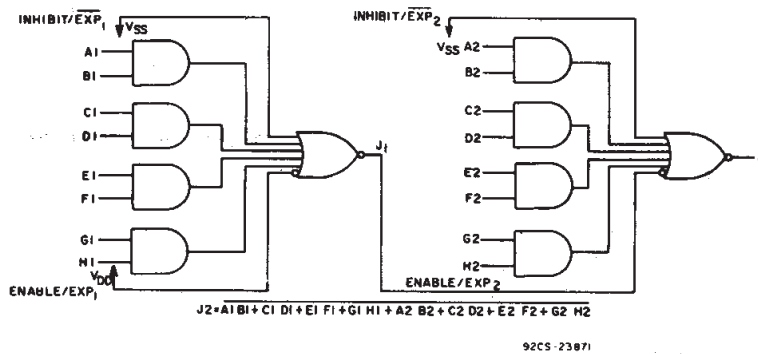

Fig. 10 - Two CD4086's connected as an 8-wide 2-input A-O-I gate.
■ CD4086B contains one 4-wide 2-input AND-OR-INVERT gate with an INHIBIT/EXP input and an ENABLE/EXP input. For a 4-wide A-O-I function INHIBIT/EXP is tied to VSS and ENABLE/EXP to VDD. See Fig.10 and its associated explanation for applications where a capability greater than 4-wide is required.
Fig. 10 above shows two CD4086's utilized to obtain an 8-wide 2-input A-O-I function. The output (J1) of one CD4086 is fed directly to the ENABLE/EXP2 line of the second CD4086. In a similar fashion, any